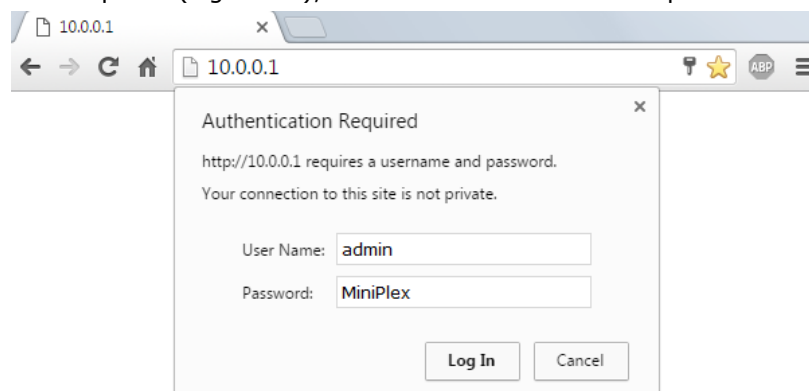

Figure 27
- Connect your computer or tablet to the MiniPlex WiFi Access Point (AP).
- An authentication is required (Figure 27), use username "admin" and password "MiniPlex"